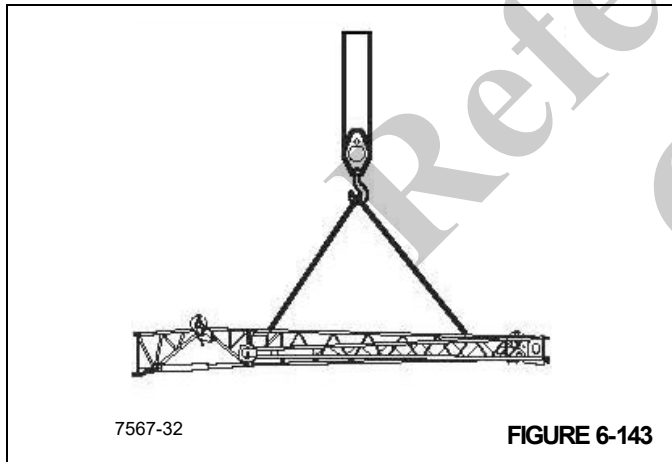

FIGURE 6-143
1. Attach a sling (Figure 6-143) to the boom extension and an auxiliary crane. Adjust the tension in the sling to support the weight of the extension while not putting upward pressure on the extension.